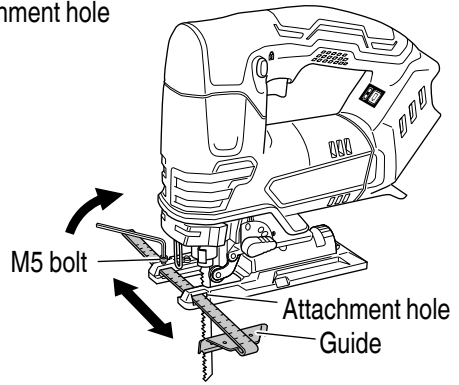

Fig. 22
- (3) Attach the guide by passing it through the attachment hole on the base and tighten the M5 bolt. (**Fig. 22**)
- (4) Set the orbital position to "0".